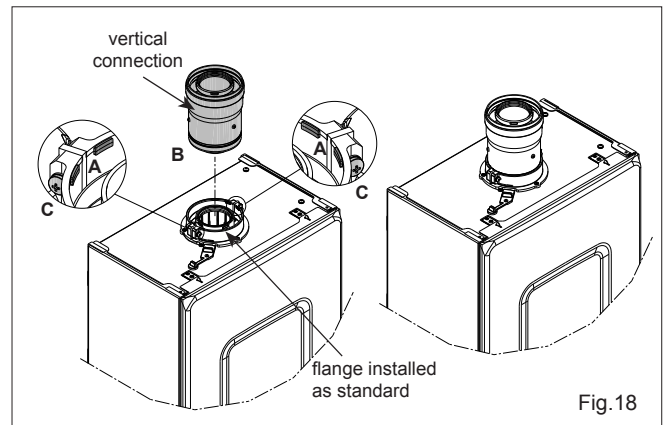

Fig. 18
**NOTE:** The appliance incorporates a 'click-fit' flue connection (see fig. 18). Ensure that both screws 'C' (fig. 11) on the 'click-fit' have been slackened off. Ensure that the connector is correctly aligned with the 'click-fit' and insert it into the 'click-fit' until it clicks into position (this is when the tabs at points 'A' are located in the groove of the vertical flue connector - see fig. 18). Both screws (C) should now be tightened.